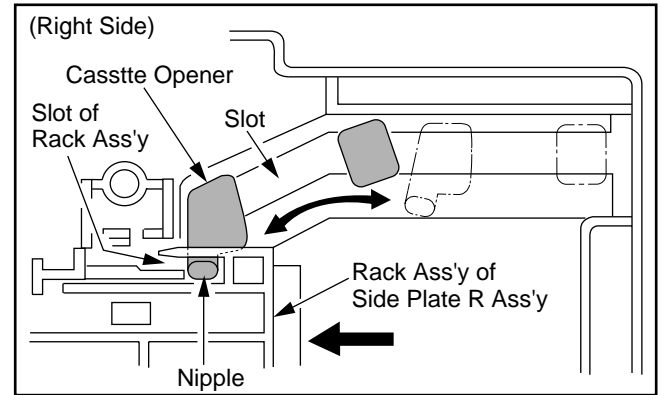

Fig. B2
2. Slide the Rack Ass'y in the direction shown by arrow so that the nipple of Cassette Opener is inside the slot of Rack Ass'y as shown in Fig B2.